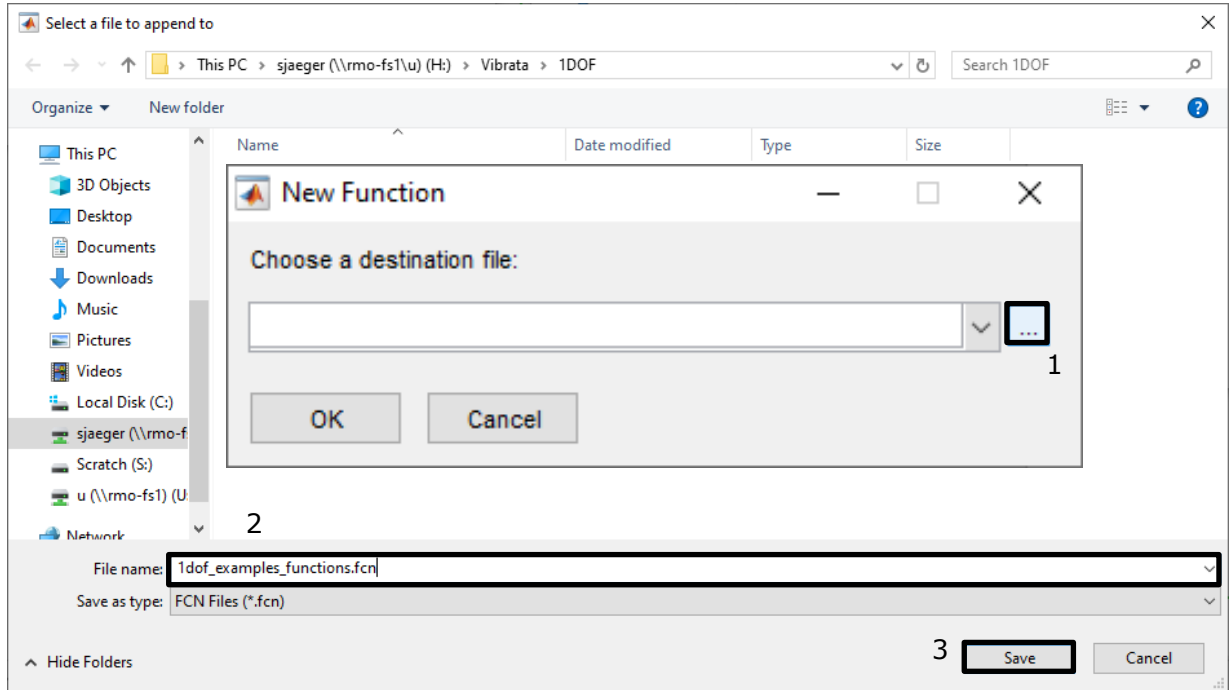

Figure 4-13. Save excitation function to new function file.
- d. Click the **Create** button to save the new function into an *fcn* file. Call this file "1dof\_examples\_functions.fcn" and place it in the 1dof folder (Figure 4-13).